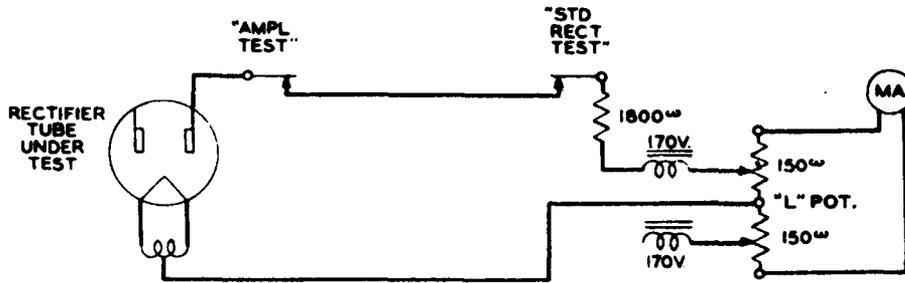

Fig. 3 - Standard Rectifier Test Circuit
2.19 When testing a rectifier type tube the set is arranged as shown in Fig. 3. Each anode is tested separately. The 83 tube has no function in this circuit arrangement, the rectifier plate circuit under test being substituted for one side of it. A current limiting resistance of 1800 ohms is in series with the tube under test, and the MICROMHOS meter reads proportionally to the rectified a-c current as indicated on the GOOD-REPLACE scale.